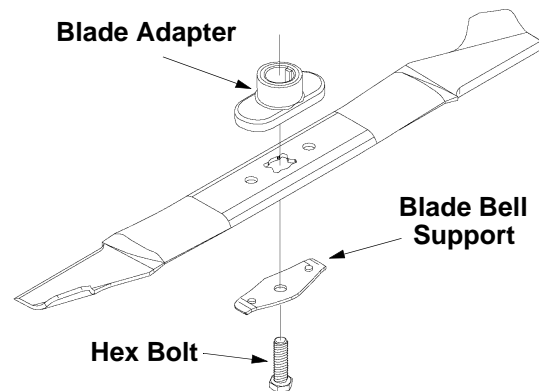

Figure 15
2. Install the blade adapter on the crankshaft with the "star" away from the engine. See Figure 15.
4. Place the blade bell support over the blade aligning the tabs in the holes of the blade with the hole in the bell support and insert the hex bolt through the blade assembly. Refer to Figure 15 for the correct order of assembly.